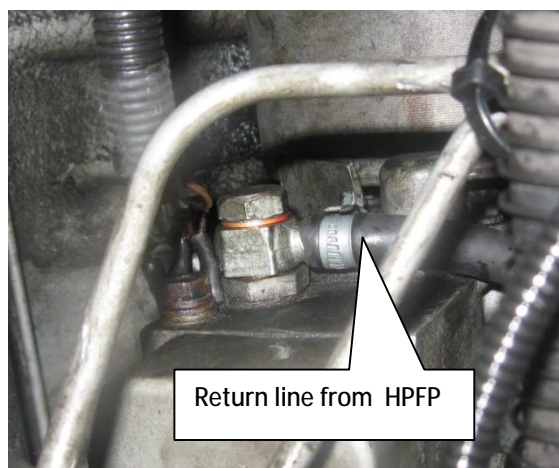

Fig.20. Connecting of the return fuel line to the inlet of HPFP
- 1) pour fuel into container 1 in amount sufficient for the de-aeration of fuel system and for warming up of the engine (see Fig. 20);